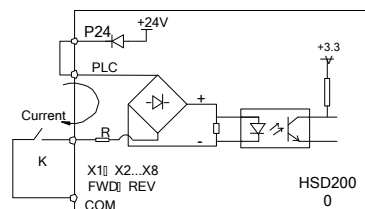

Figure 4-15: Internal 24V Power Supply Wire Connection
HSD2000 multi-function input terminal is equipped with full bridge rectifier circuit as shown in figure 4-15. PLC is public terminal of X1~X8, FWD, REV. Current through PLC terminal will be either source current or sink current. Interface of external with X1~X8, FWD, REV shall be flexible. The typical wiring method shall be as follows:
- 1) Internal 24V power supply in servo drive shall be used. The wiring is shown in figure 4-15.